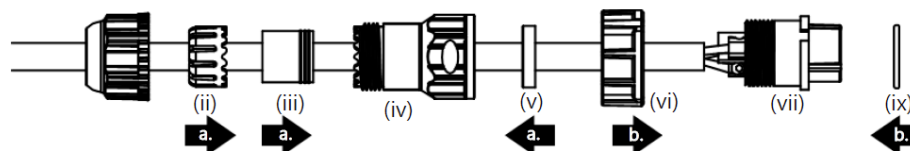

Figure 67: Steps 3 and 4
3. Fit the gasket (v), sealing (iii), and clip (ii) onto the sealing body (iv) (Figure 67).
4. Fit the lock (vi) and o-ring (ix) onto the housing (vii) (Figure 67).